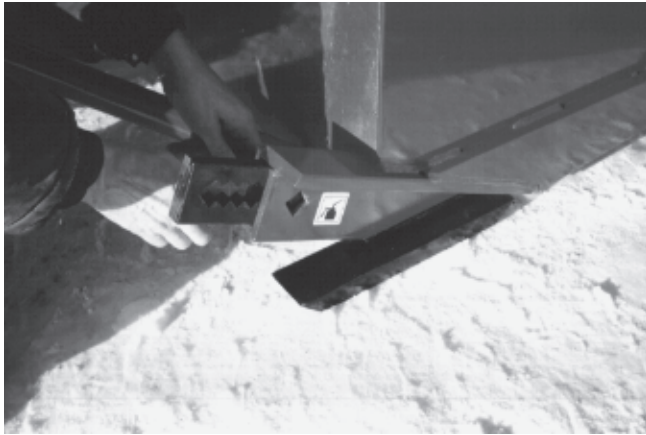

Figure 23
- 5) Adjust skid shoes according to ground conditions (Fig. 23).